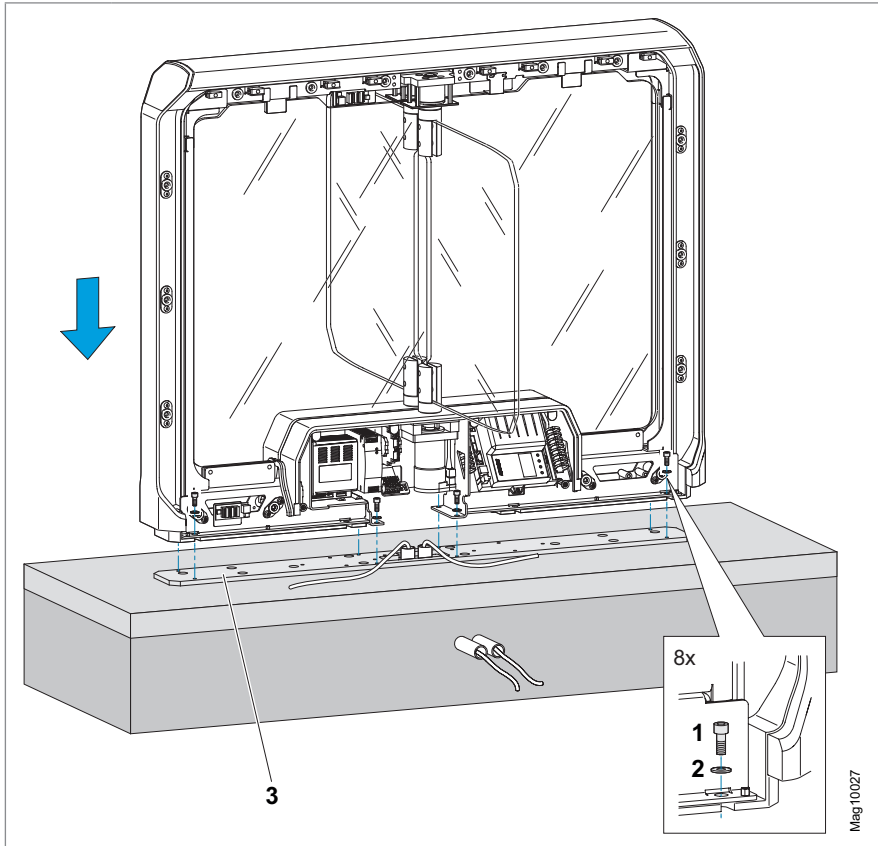

Fig. 22: Mounting version "gluing plate mounting" – Mounting the pedestrian gate
11. Place the pedestrian gate on the base plate. ↗ Page 52, Fig. 22.